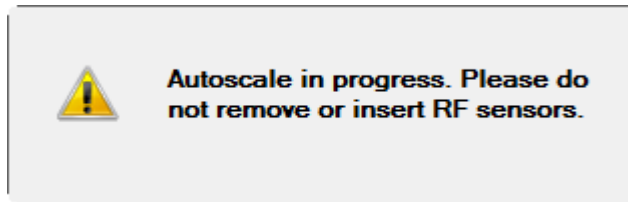

Figure 2-35 Autoscale notification dialog
- 2 When the autoscale function is running, a notification dialog is displayed as shown in Figure 2-35.